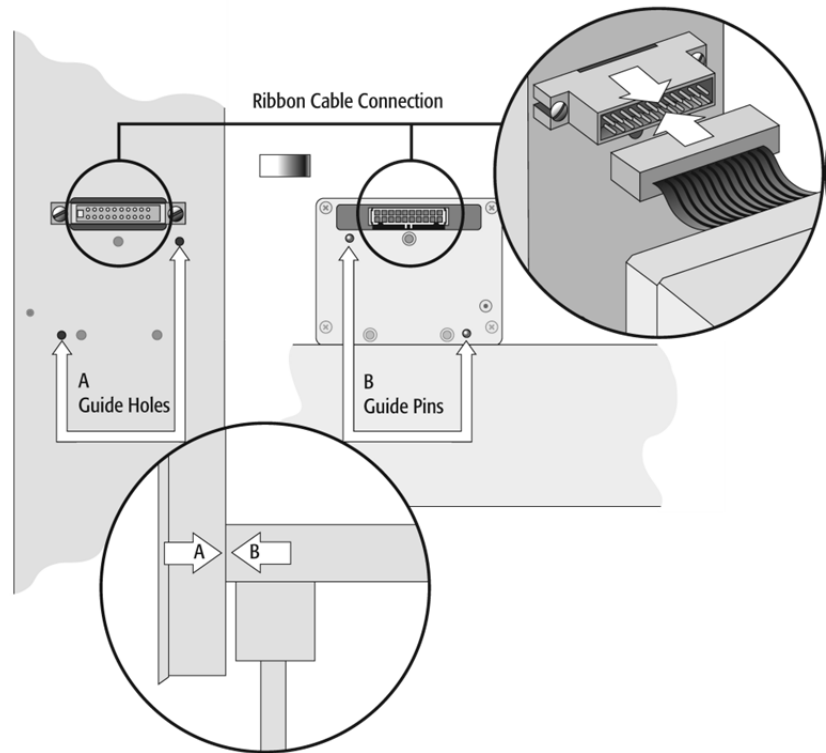

Figure 11. Connecting the Injection Unit Ribbon Cable
2. Connect the ribbon cable **A** protruding from the front end of the Y-axis to the corresponding connector on the Injection Unit (see Fig. 11);